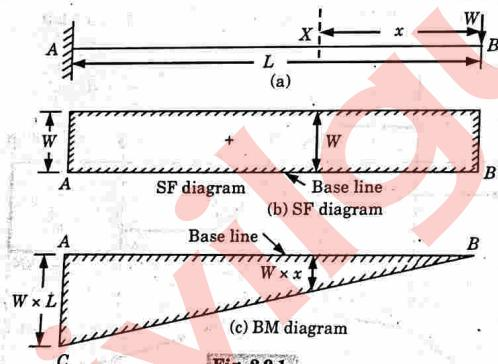

Fig. 2.9.1
- Fig. 2.9.1 shows a cantilever AB of length L fixed at A and free at B and carrying a point load W at the free end B .
- The shear force will be constant at all sections of the cantilever between A and B as there is no other load between A and B . The shear force diagram is shown in Fig. 2.9.1(b).
- The BM diagram is shown in Fig. 2.9.1(c). At point A , take $AC = WL$ in the downward direction. Joint B to C .